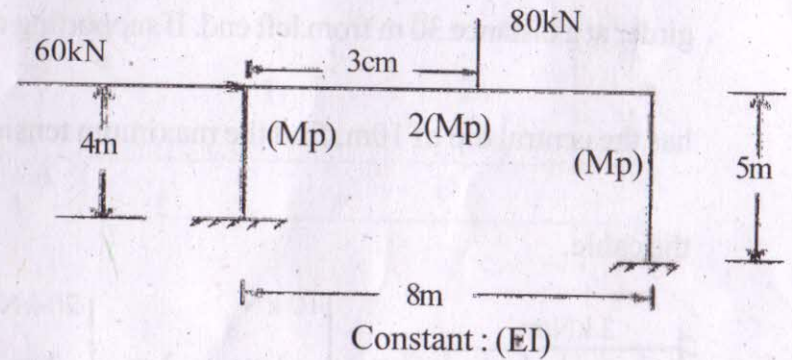

Fig.4
- g) Determine the plastic moment capacity  $M_p$  for the frame shown in Fig 4 given below